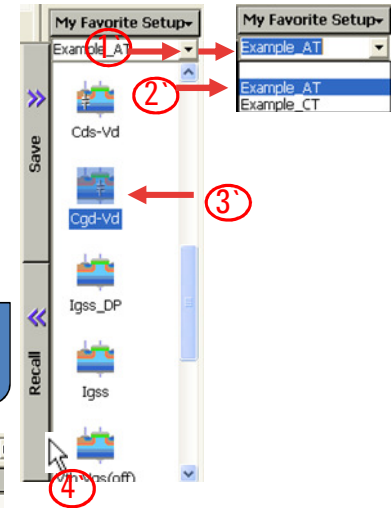

Figure 3-67. Cgd Application Test setup.
Setup and execute the test by following the next steps. The same instruction steps are illustrated by the numbers on the "1. Starting from Application Test Library" side of figure 3-67.
Step 5. Set the test parameters shown in figure 3-67 to an appropriate one depending on your B1505A configuration and your test device.